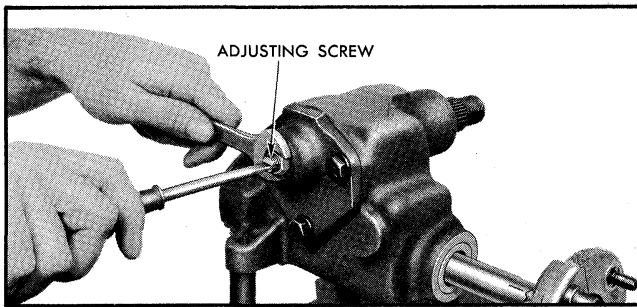

Fig. 9-5 Adjusting Pitman and Ball Nut Backlash
2. Loosen pitman shaft adjusting screw lock nut and back off adjusting screw a few turns (Fig. 9-5).